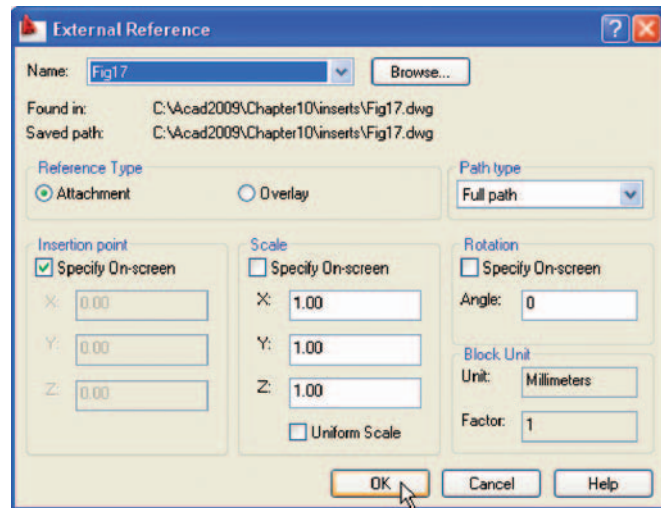

Fig. 10.15 The **External Reference** dialog
4. Click its **Attach** button and select **Attach DWG...** from the pop-up list which appears when a *left-click* is held on the button. Select the drawing of a spindle (**Fig17.dwg**) from the **Select Reference file** dialog which appears followed by a *click* on the dialog's **Open** button. This brings up the **External Reference** dialog (Fig. 10.15) showing **Fig17** in its **Name** field. Click the dialog's **OK** button.